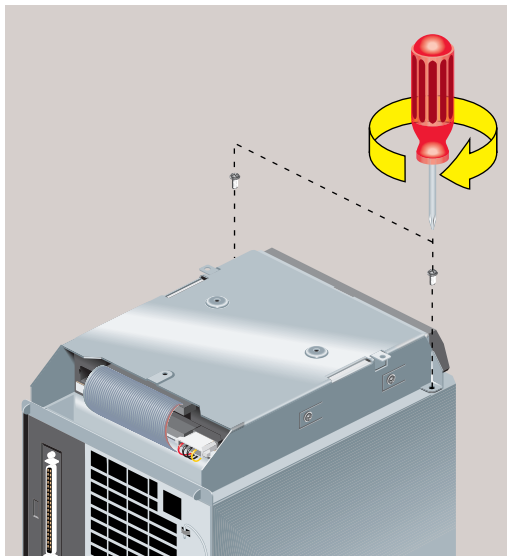

Figure 5-55 Securing the CD-ROM Drive
14. Insert and tighten the two screws that secure the CD-ROM drive (Figure 5-55).